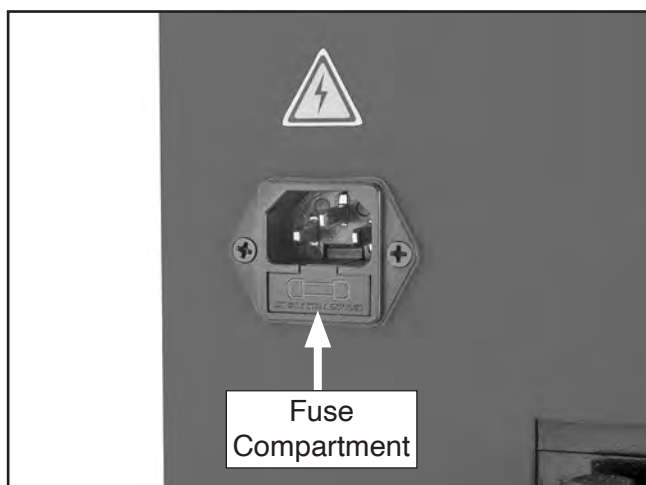

Figure 61. Location of fuse compartment.
3. Pry fuse compartment (see **Figure 61**) from male receptacle on column.